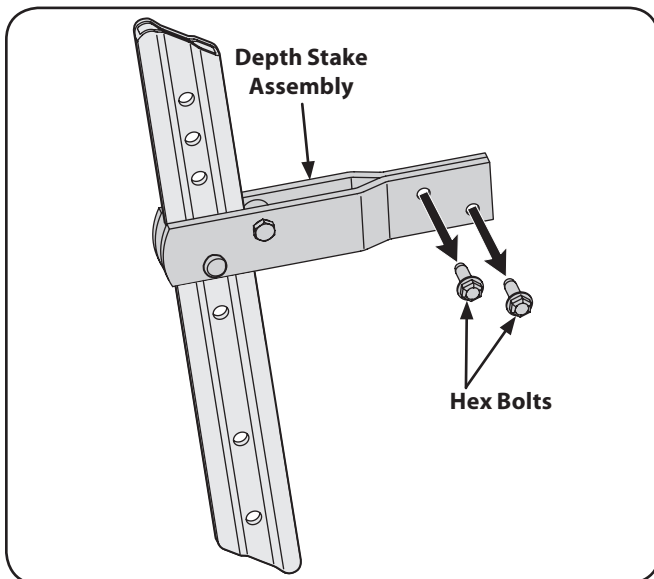

Figure 3-5
1. Remove the two hex bolts from the depth stake assembly. See Figure 3-5.